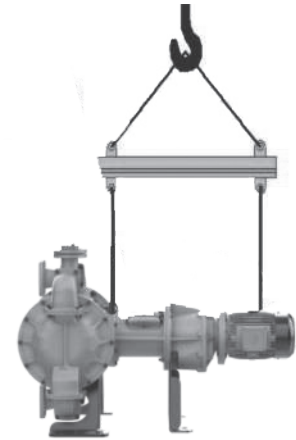

Figure 1
1. The pump is provided with two lifting hooks as shown in Figure 1.